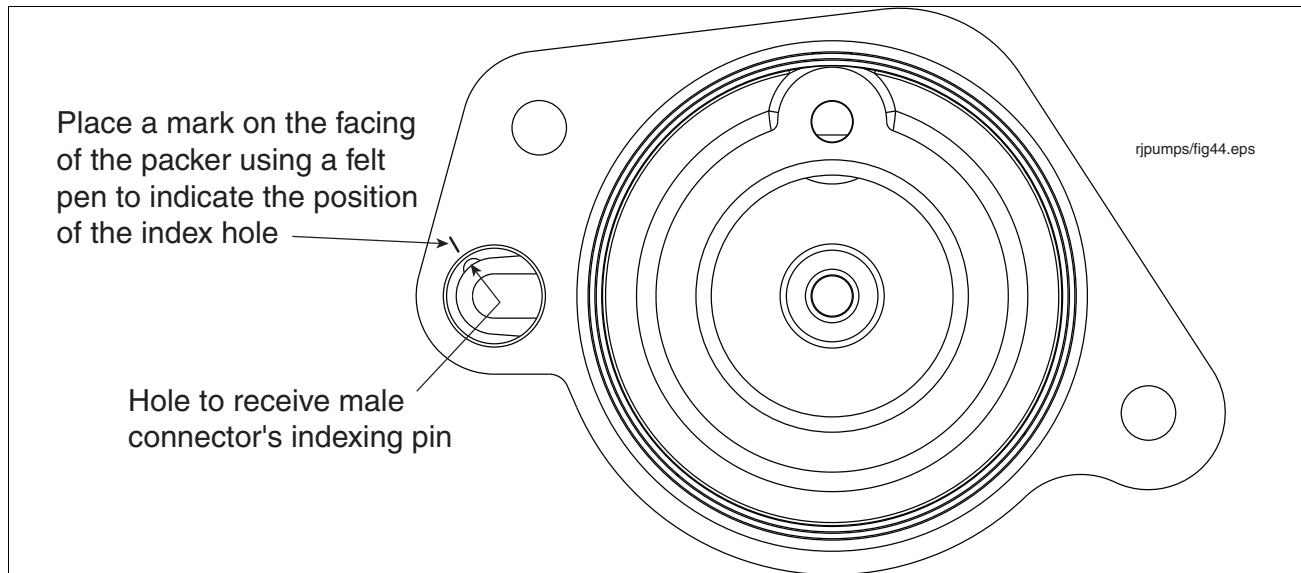

Figure 32. Male Connector Index Hole In Base Of Socket
10. The indexing pin on the back of the connector must seat in the index hole in the base of the male connector's socket (see Figure 32) for the connector to be correctly oriented relative to the female connector.
11. Place a mark on the facing of the Packer using a felt pen to indicate the position of the index hole (see Figure 32).